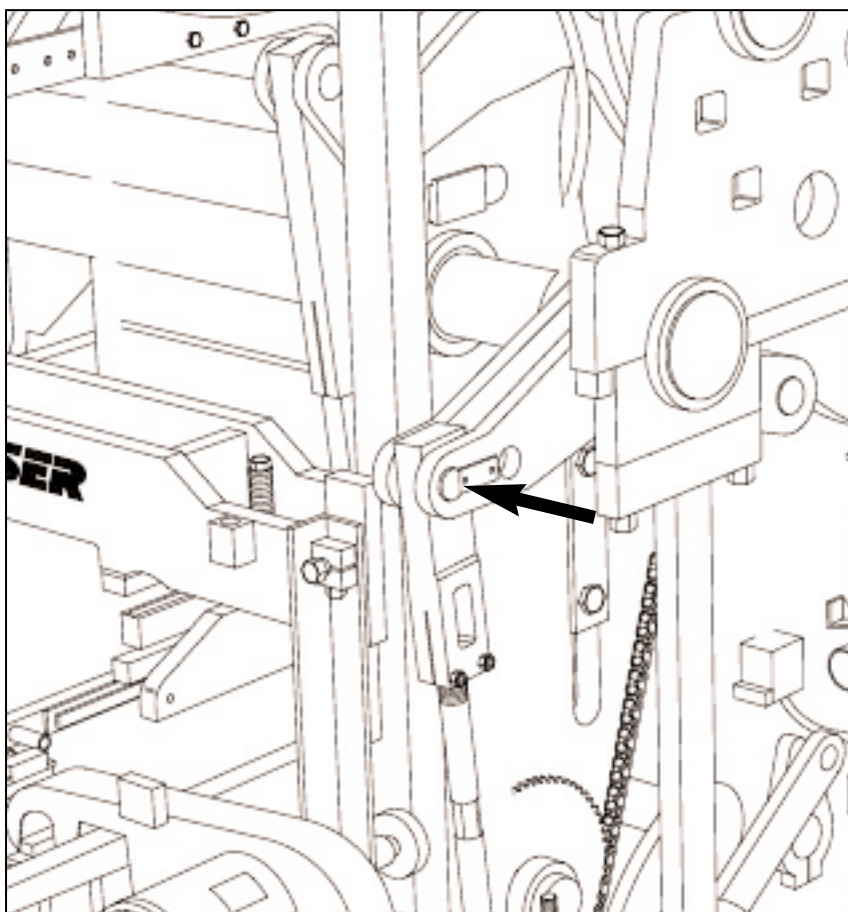

Figure 4.16 PALLET RECEIVER SHAFT POSITION.
4.2.1 The following items should be positioned as shown in figure 4.16 and 4.17:
- a. Pallet receiver shaft - position pins in inside holes (short stroke)(see figure 4.16 below).